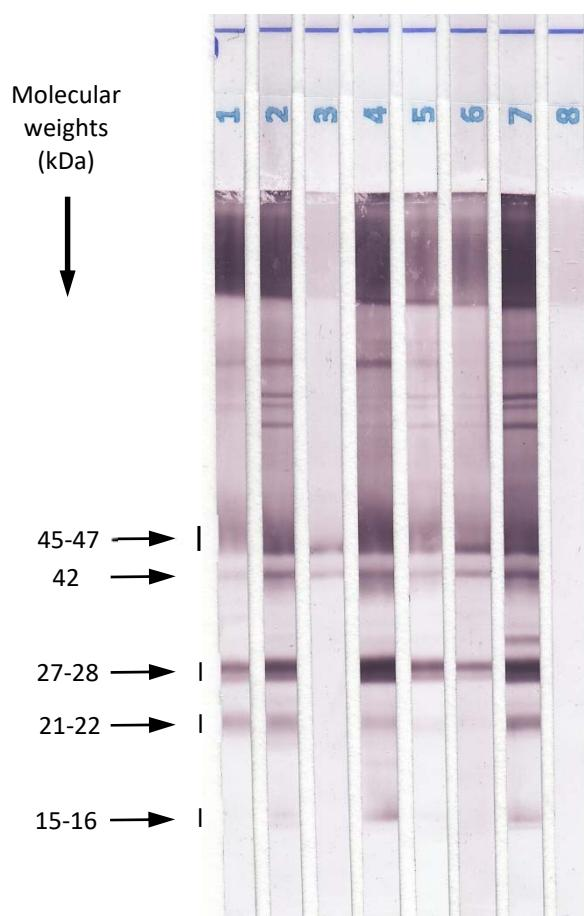

Fig. 1: Examples of positive and negative results
- 5 bands are most often present: **P15-16, P21-22, P27-28, P42 and P45-47** at the corresponding molecular weights (see photograph on **Fig. 1**).